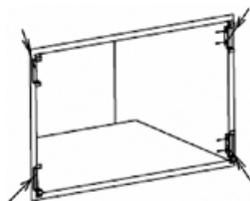

Fig. 2
2. By means of screws fix the frame holders in the corners of the box (see Fig. 2). Use the attached small template to find the exact position.